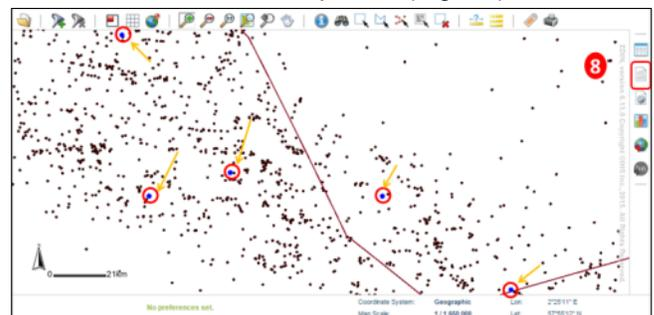

Fig 4-3: Select and Display on Map
The **Map** Interface will open and highlight the selected wells as shown in below the picture (Fig 4-3).
- (8) Click the **Reports** icon on the right panel (Fig 4-3), which will pop-up a new window. And you can select template of spreadsheet, e.g.